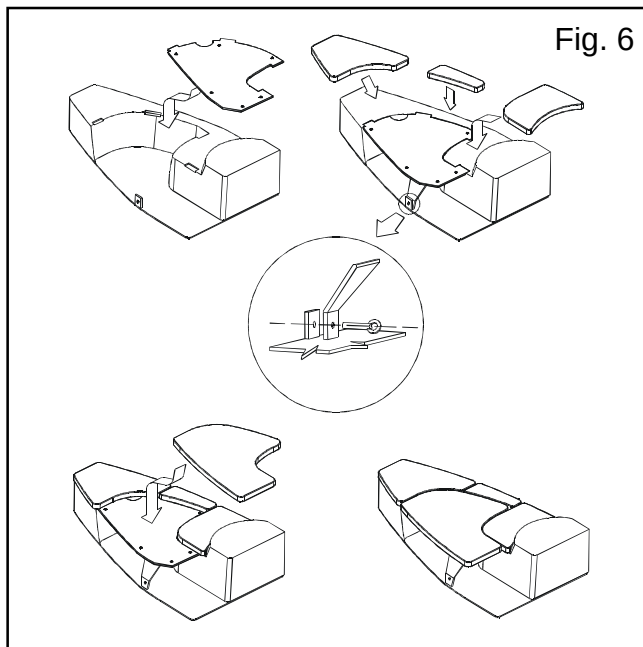

Fig. 6
- set the sundeck cushions on the press-buttons (see Fig. 6).